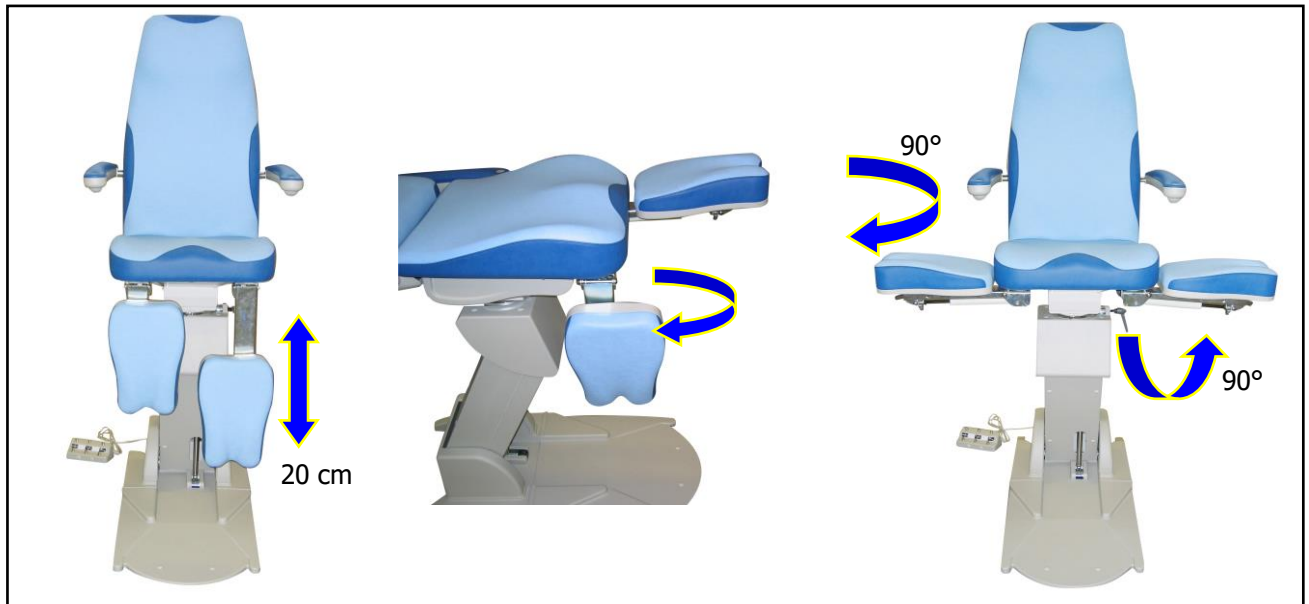

Figure 2.9
**Length:** The leg rest are in a simple manner more than 20 centimeters extendable (fig. 2.9). Loosen the button on the exterior of the leg rest and pull or push the leg into the desired position. Turn the button again easily, in order to tighten the leg rest. It is not necessary to tighten this button firmly.